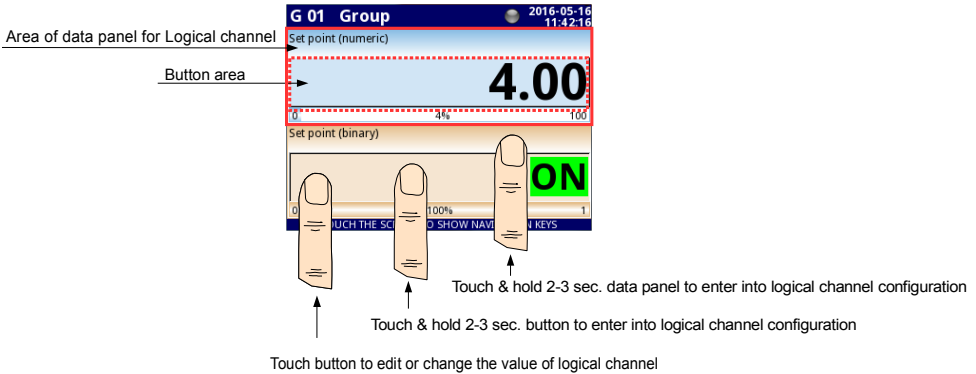

Fig. 7.54. Data panels for Logical channel in **Set point value** mode
- **Edit button** - this parameter allows you to activate the button in the panel data (see **Fig. 7.54**), this parameter has two options: